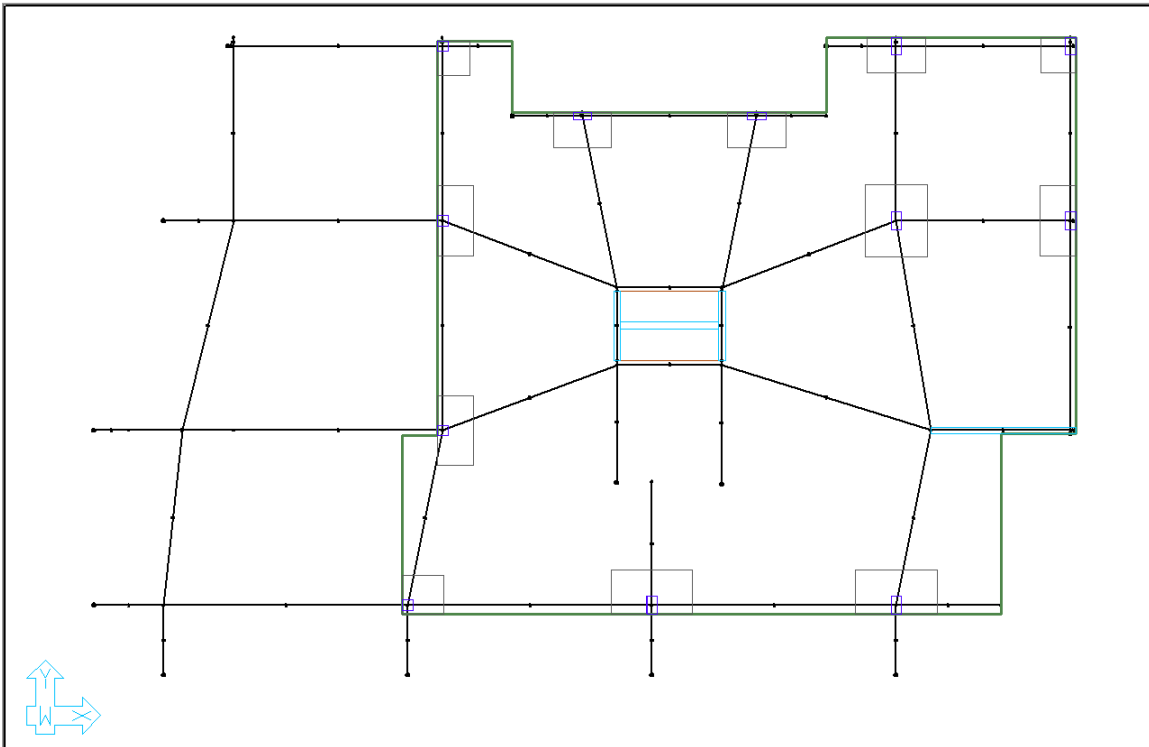

FIGURE 10-5
- You should now see the Level 4 geometry with support lines and splitters copied to it as shown in **FIGURE 10-5**.